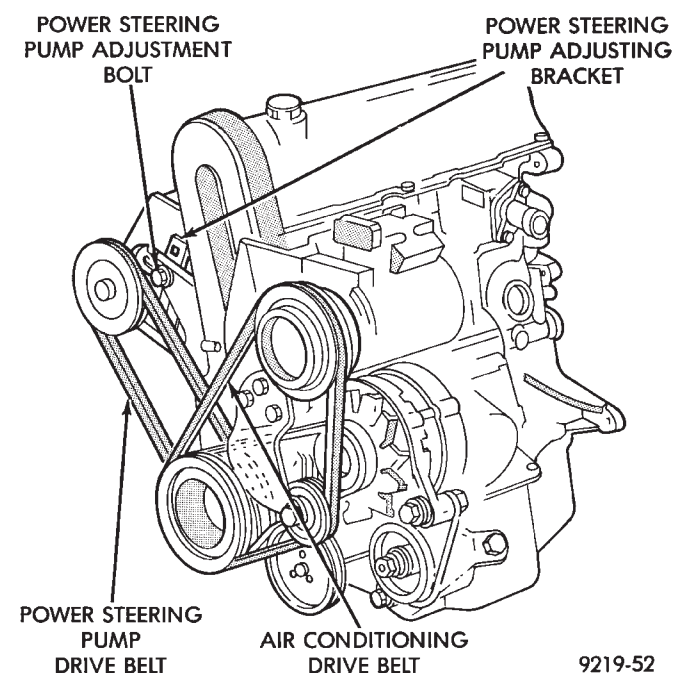

Fig. 1 Power Steering Pump Drive Belt Removal
(1) REMOVE THE (-) NEGATIVE BATTERY CABLE FROM THE BATTERY AND ISOLATE CABLE.
(2) Loosen power steering pump adjustment bolt and rotate the pump forward in bracket. Remove the power steering pump drive belt from pump (Fig. 1). It is not necessary to remove the power steering pump drive belt from engine.